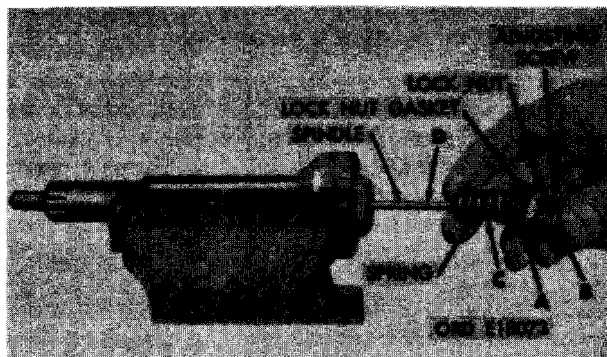

FIGURE 153. REMOVING OR INSTALLING LOCK NUT, ADJUSTING SCREW, SPRING, SPINDLE, AND GASKET.
- (2) Figure 153. (A) Loosen locknut. (B) Remove adjusting screw and lock nut. Remove and discard lock nut gasket. (C) Remove spring. (D) Remove spindle.